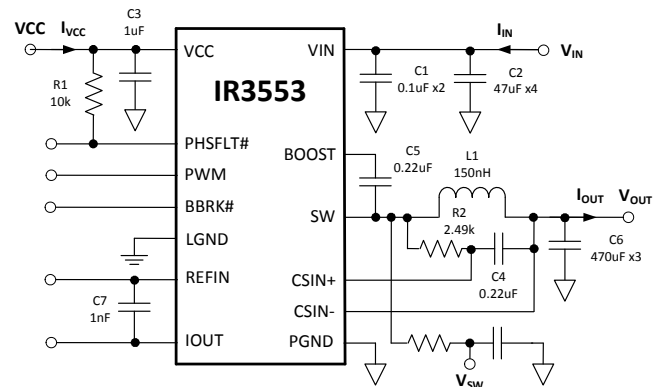

Figure 32: IR3553 Power Loss Measurement
Circuit of Figure 32, $V_{IN}=12V$, $V_{OUT}=1.2V$, $f_{SW} = 400kHz$, $L=150nH$ ($0.29m\Omega$), $V_{CC}=7V$, $T_{AMBIENT} = 25^{\circ}C$, no heat sink, no air flow, 8-layer PCB board of 3.7" (L) x 2.6" (W), no PWM controller loss, no inductor loss, unless specified otherwise.
The single-phase IR3553 efficiency and power loss measurement circuit is shown in Figure 32.